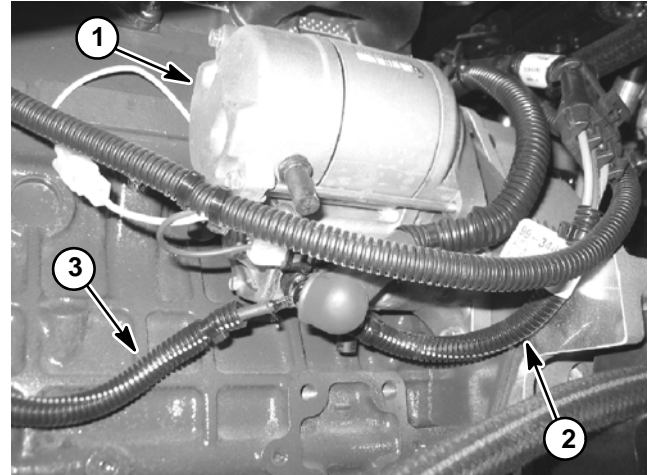

Figure 55
The Groundsmaster 360 uses four (4) fusible links for circuit protection. Two (2) of these fusible links are included in a three (3) wire harness that connects the starter B+ terminal to the wire harness (Fig. 55 and 56). An additional fusible link is used that connects the starter B+ terminal to the alternator B+ terminal (Fig. 55 and 57). The remaining fusible link is included in the wire harness and connects the starter G terminal to the engine run solenoid pull coil. If any of these links should fail, current to the protected circuit will cease. Refer to the electrical schematic and wire harness drawings in Chapter 9 - Foldout Drawings for additional circuit information.